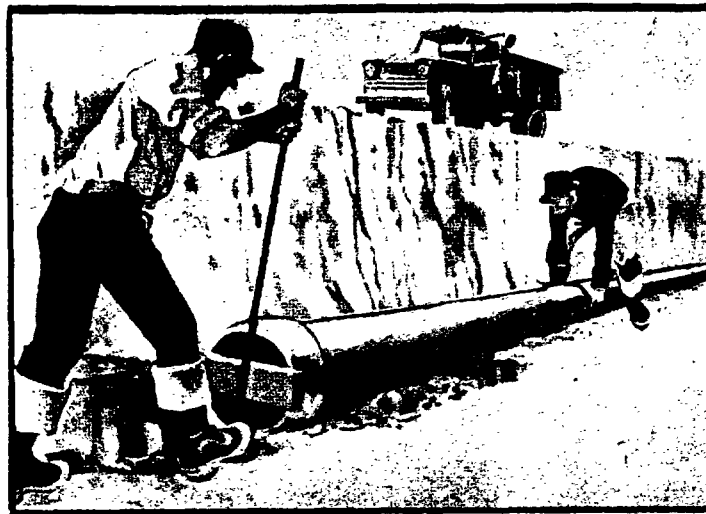

Figure 38
- E. For UNbelled pipe place coupling over the lubricated pipe end. Push couplings with a crowbar, use a protective wood block between bar and coupling. Push until coupling is against CERTA-SPACER band. For PREbelled pipe, align the pipe end, with the coupled end and shove, until the assembly is made. (Figure 38).